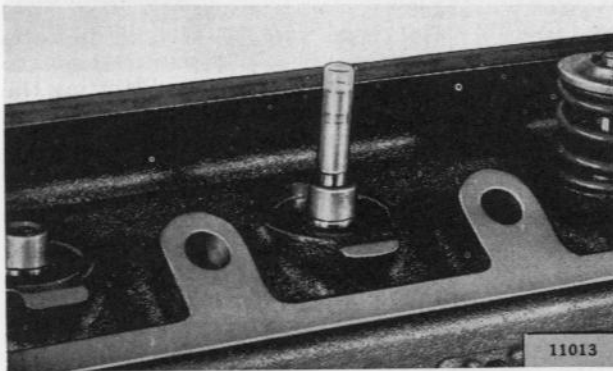

FIG. 122—PLASTIC CAP OF INSTALLER TOOL W-273 POSITIONED ON VALVE STEM
- c. Cut off the excess length of the cap. It should extend  $\frac{1}{16}$ " below the groove on the valve stem. Place the plastic cap included in each kit on the top of the valve stem, as shown in Fig. 122, to protect the Teflon insert. Lightly lubricate the cap.